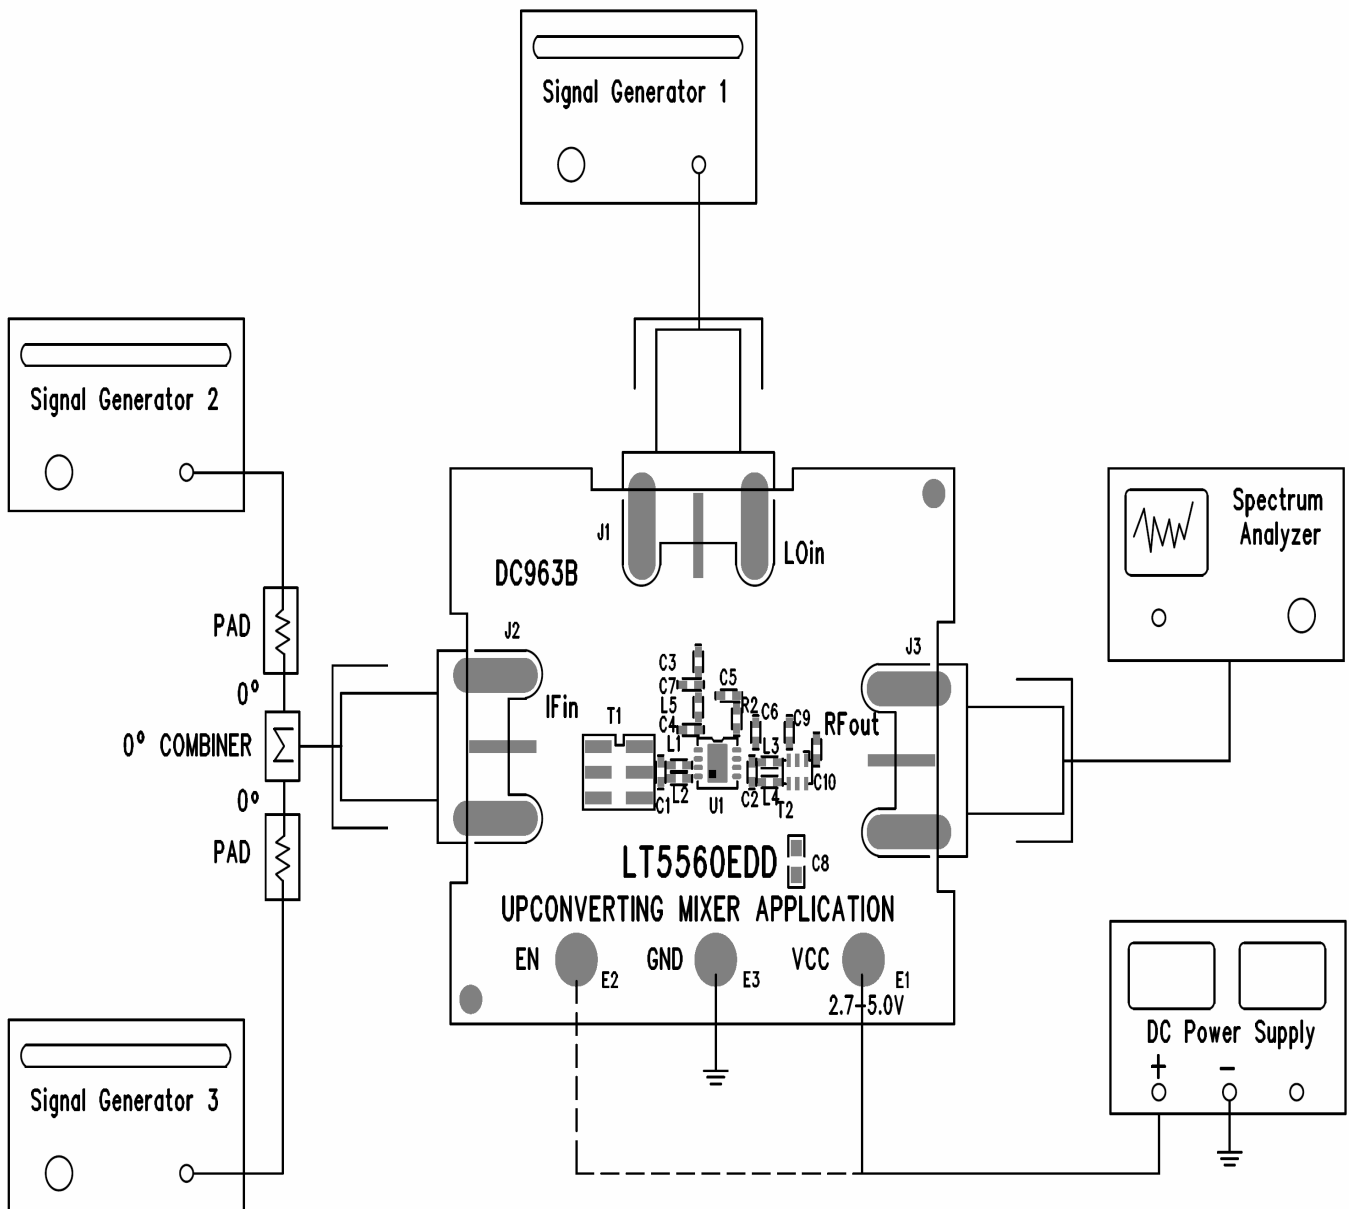

Figure 1. Proper Measurement Equipment Setup
Demonstration circuit DC963B is easy to set up to evaluate the performance of the LT®5560. Refer to Figure 1 for proper measurement equipment setup and follow the procedure below:
1. Connect all test equipment as shown in Figure 1.